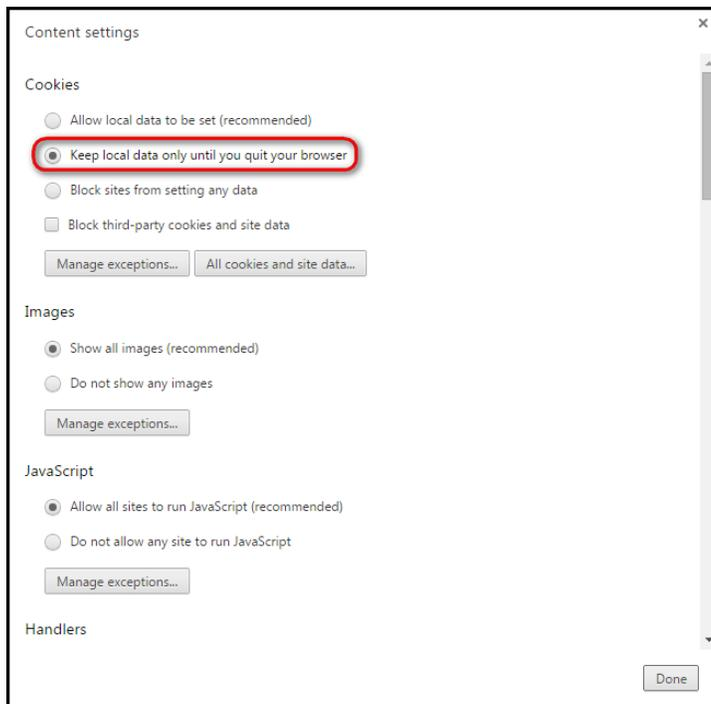

Figure 5: Keep Local Data Only Until You Quit Your Browser
- Under **Cookies**, select **Keep local data only until you quit your browser**. See Figure 5.